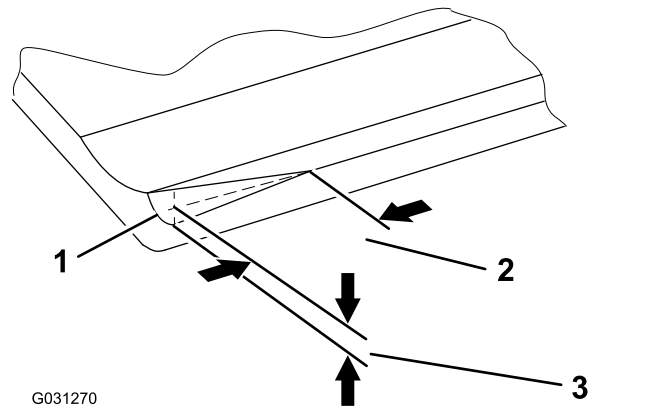

Figure 8
**Note:** Over time, you will need to grind the chamfer (Figure 8), as it is only designed to last 40% of the bedknife life.